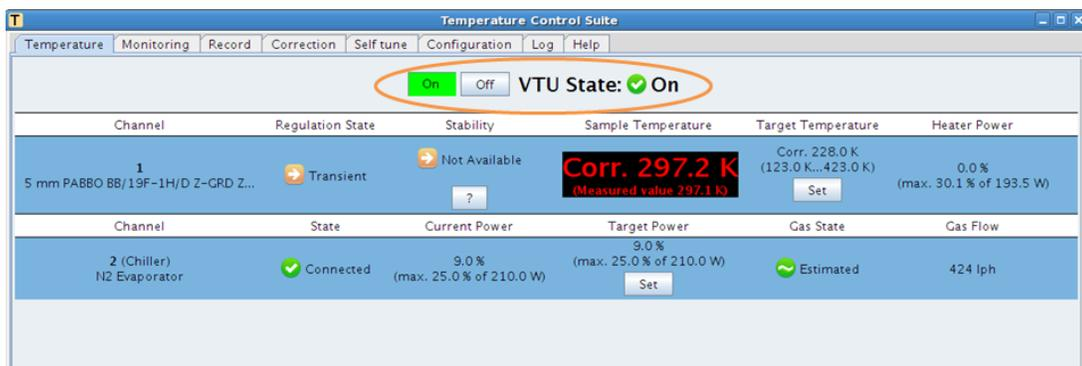

Figure 21: Turn ON the VTU
4. Now click on **ON** button in the top row of the **Temperature** Tab to turn on the VTU (Figure 21). The heater of the transfer line will be turned on in the liquid nitrogen dewar so that the cold nitrogen gas is introduced into the probe. The probe heater is also turned on to regulate the sample temperature if the sample temperature is lower than the target sample temperature.